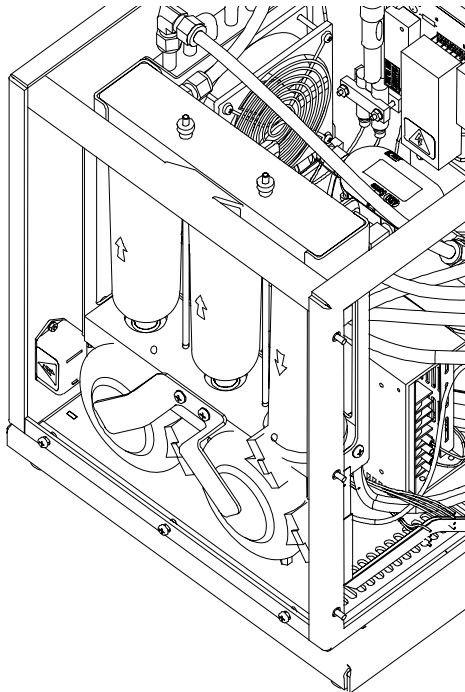

Figure 6-8
To replace the filter cartridges, refer to Figure 6-8 and follow the steps below:
1. Disconnect the electric power cable and remove the cabinet cover by loosening the seven (7) screws on the side panels securing the cover (the screws do **not** have to be removed).
5. Replace the filter cartridges making sure that the O-rings are in place on the top and bottom filter manifolds. Observe the correct filter orientation (arrows as shown in Figure 6-8).